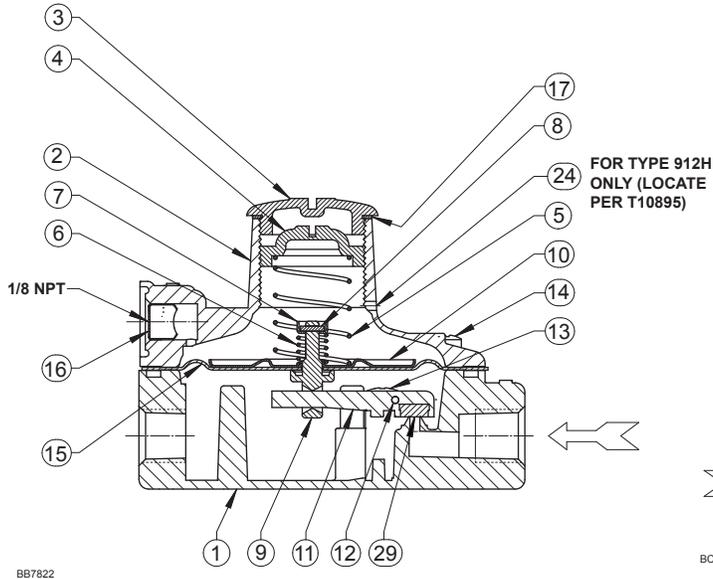

Figure 2. 912N Series Pressure Regulator Assembly
Key numbers are referenced in Figure 2.
This procedure is to be performed if changing the control spring for one of a different range, or for inspecting, cleaning, or replacing any other parts. Key numbers are referenced in Figures 2 and 3.
Refer to Figure 2 on units without the handwheel, unscrew the closing cap (key 3) and turn the adjusting screw out of the spring case. Lift out the control spring (key 5).